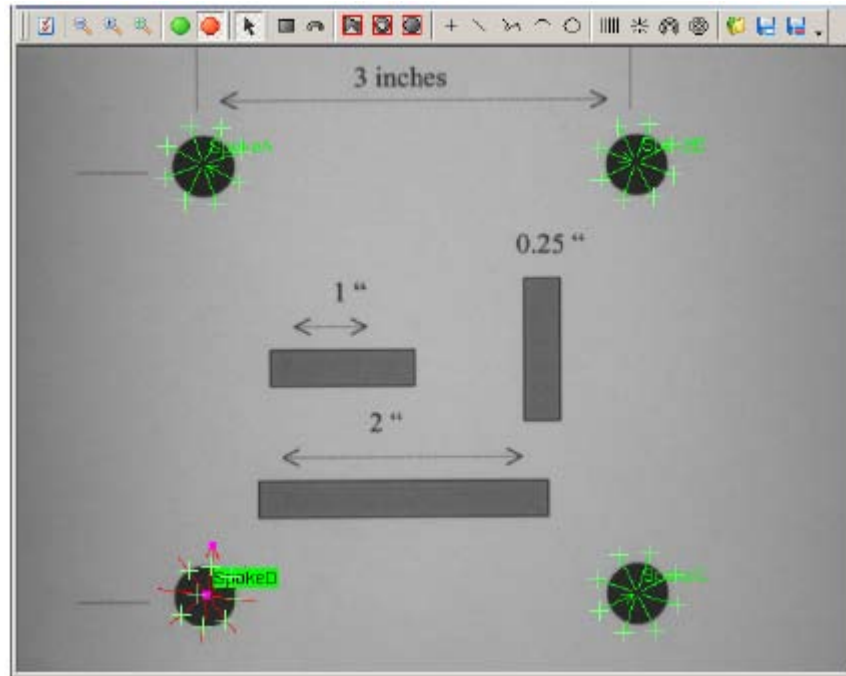

Figure 69. Four Spoke ROIs in calibration_reference.bmp
7. In the image window, create four ROIs to find the four points. For this example, use four Spoke ROIs to find the edges of the four circles. Click on the “Spoke” button in the Image Window toolbar. Click twice in the center of one of the holes, then click outside the hole. Repeat for the four holes indicated in Figure 69.